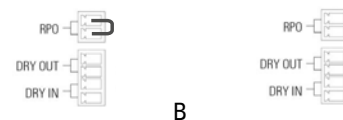

Fig. 21. Connector for external RPO.
- Either by removing the female connector from the socket where it is inserted. This connector has a cable connected as a jumper that closes the circuit (see Fig. 21-A).
- Or by pressing the button external to the device belonging to the user installed between the terminals of the connector (see Fig. 21-B). The connection on the button must be in the normally closed contact **NC**, so it will open the circuit when activated.